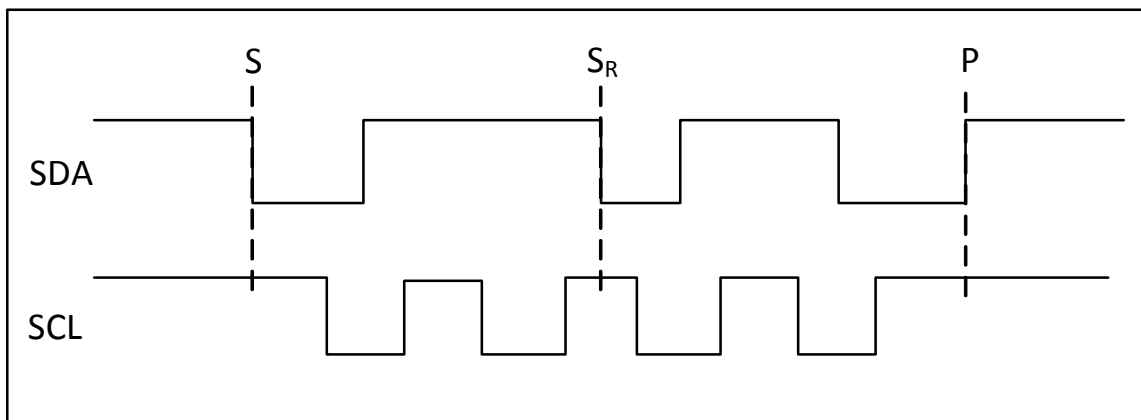
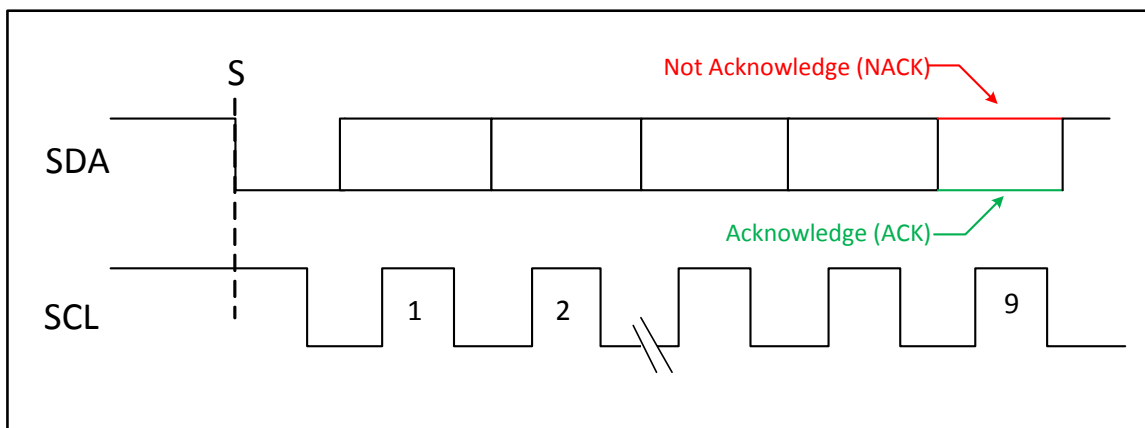

Figure 8. Start and Stop Conditions
Figure 9. Acknowledge Cycle
The I²C/SMBus serial port is a two-wire serial bus where data line SDA is bidirectional and clock line SCL is unidirectional. Reads and writes to this interface by the master are byte-oriented, with the I²C/SMBus master controlling the serial data rates up to 240 kbps. The SDA and SCL lines must be pulled high through pull-up resistors of 5 k Ω or less. An Si8901 ADC read transaction begins with a START condition ("S" or Repeated START condition "SR"), which is defined as a high-to-low transition on SDA while SCL is high (Figure 8). The master terminates a transmission with a STOP condition (P), defined as a low-to-high transition on SDA while SCL is high. The data on SDA must remain stable during the high period of the SCL clock pulse because such changes in either line will be interpreted as a control command (e.g., S, P SR). SDA and SCL idle in the high state when the bus is not busy. Acknowledge bits (Figure 9) provide detection of successful data transfers, whereas unsuccessful transfers conclude with a not-acknowledge bit (NACK). Both the master and the Si8901 generate ACK and NACK bits. An ACK bit is generated when the receiving device pulls SDA low before the rising edge of the acknowledged related (ninth) SCL pulse and maintains it low during the high period of the clock pulse. A NACK bit is generated when the receiver allows SDA to be pulled high before the rising edge of the acknowledged related SCL pulse and maintains it high during the high period of the clock pulse. An unsuccessful data transfer occurs if a receiving device is busy or if a system fault has occurred. In the event of an unsuccessful data transfer, the bus master attempts communication at a later time. Figure 10A shows the I²C Slave Address Byte and CNFG_0 byte for the Si8901. Figure 10B and Figure 10C show master/Si8901 ADC read transactions for Demand Mode and Burst Mode, respectively.